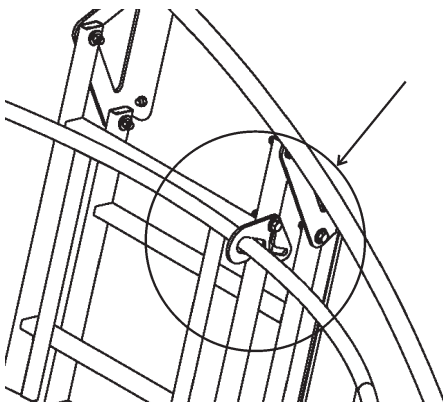

Figure 10 - Hanger lock hook
2) The hanger will be held against the tunnel structure by its lock hook (14) as shown in Figure 10 (Parts List # 3).